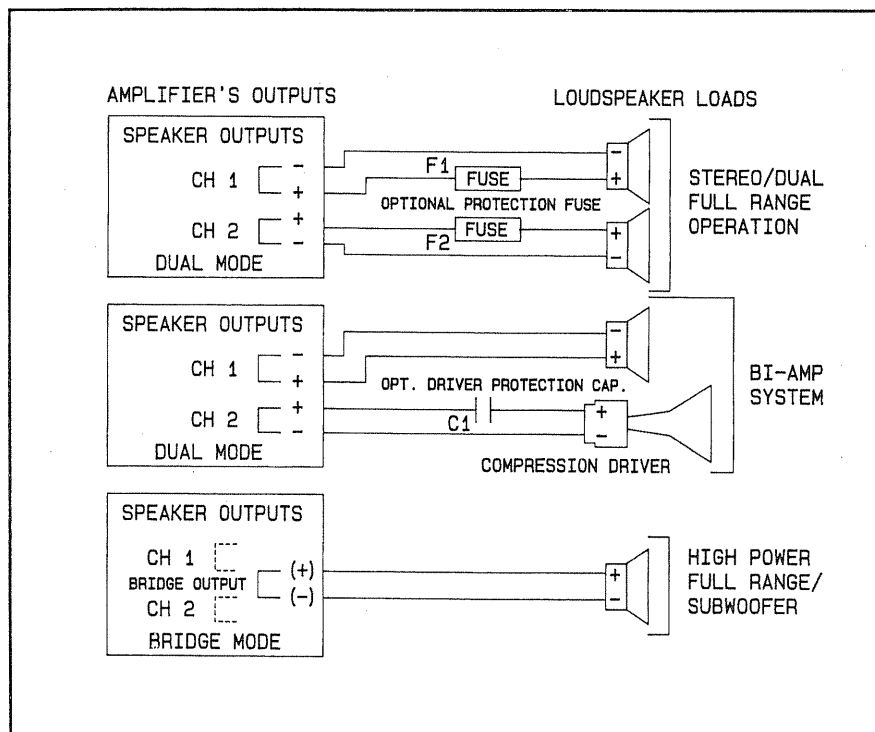

Figure 4 Typical Output Connections
Output connections are made to the binding post connectors located on the rear. The *Red* post is the high (+) output and the *Black* post is the low (—) output connectors. Refer to Figure 4 for typical output connections.
Use 32 volt fuses if possible; they typically have the lowest internal resistance which will help minimize deterioration of the damping factor at the load. Refer to the example in Figure 4.
Compression drivers, used for mid to high frequency sound reproduction, are much more susceptible to damage from low frequencies than large cone loudspeakers. Even though an electronic crossover may be employed, problems may arise in the cables between the crossover and the power amplifier, or from mis-adjustment of the crossover. Either of these situations could apply low frequency signals or hum to the driver and cause damage. To prevent a potential mishap, Electro-Voice recommends using a capacitor between the amplifier and the compression driver to suppress low frequencies and possible DC. Refer to the example in Figure 4.
3. Verify that the output connections are properly made. Refer to Figure 4.